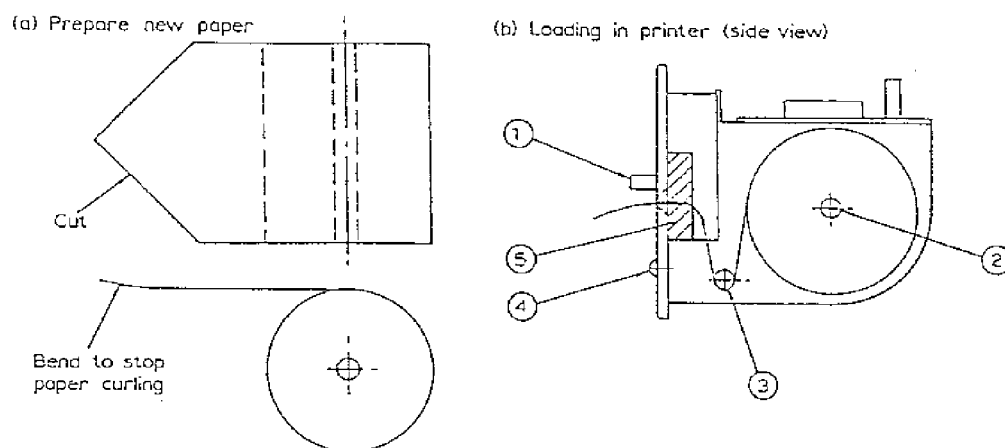

Figure 6
5.1 Changing the paper roll and cartridge ribbon (Fig. 6)
Prepare a fresh roll of paper by cutting a shallow "arrow head" at its start. Place roll in paper holder region and insert paper pivot through centre, as shown in Fig. 6. Fasten paper pivot with knurled thumbscrew and nylon washer (finger tight only). Straighten first 20 mm paper over paper guide (3) and insert into printer, correctly centred. Push in as far as it will go.